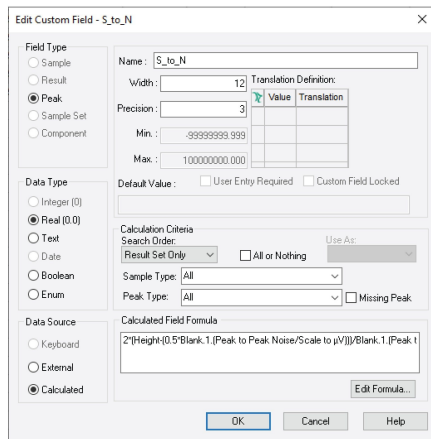

Figure 5. Custom Field for s/n calculation using the blank.
2. Create the custom field using intersample syntax with the label definition for the *blank injection* in the formula field box (Figure 5). The full formula is as follows: